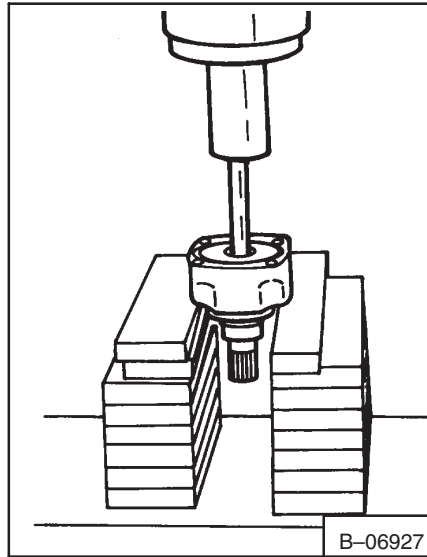

**Fig. 3-54** Drive End For The Hydrostatic Motor
23. Remove the large O-ring from the mounting flange (Fig. 3-54).